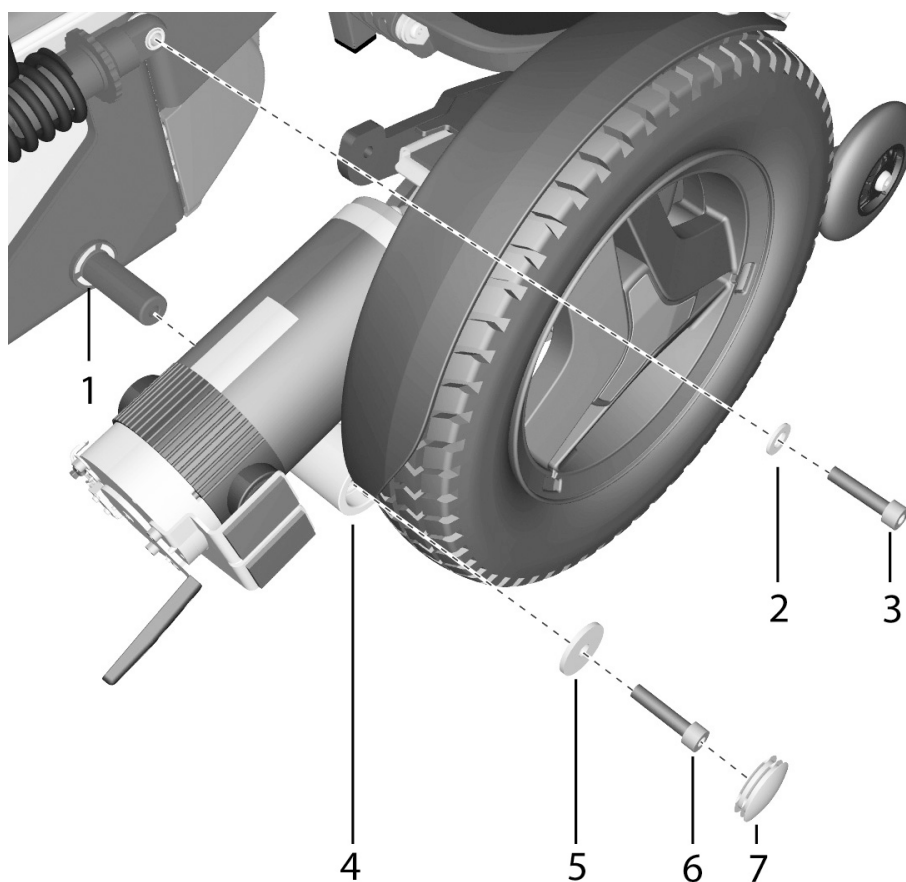

Figure 50. Fitting/removing the Front link arm
2. Fit the link arm (4) on the axle using just your hands. Check that the link arm is fully located on the axle. See fig.50.
3. Fit the screw (3) and washer (2). Tighten the screw with a torque wrench. **Tightening torque: 24Nm / 17.7 Ft/lbs.** See fig.50.
4. Fit the shock absorber on to the link arm. It is fitted with one screw (3) and washer (2). Tighten the screw with a torque wrench. **Tightening torque: 24Nm / 17.7 Ft/lbs.** See fig.50.
5. Fit the cover (7) on to the link arm. See fig.50.